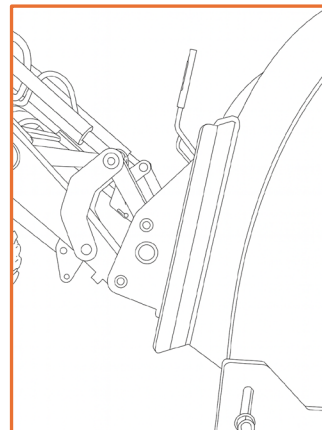

Figure 3-3
7. Slowly lift the quick attach until the top of the quick attach and the top of the mount point have come together. See Figure 3-3.